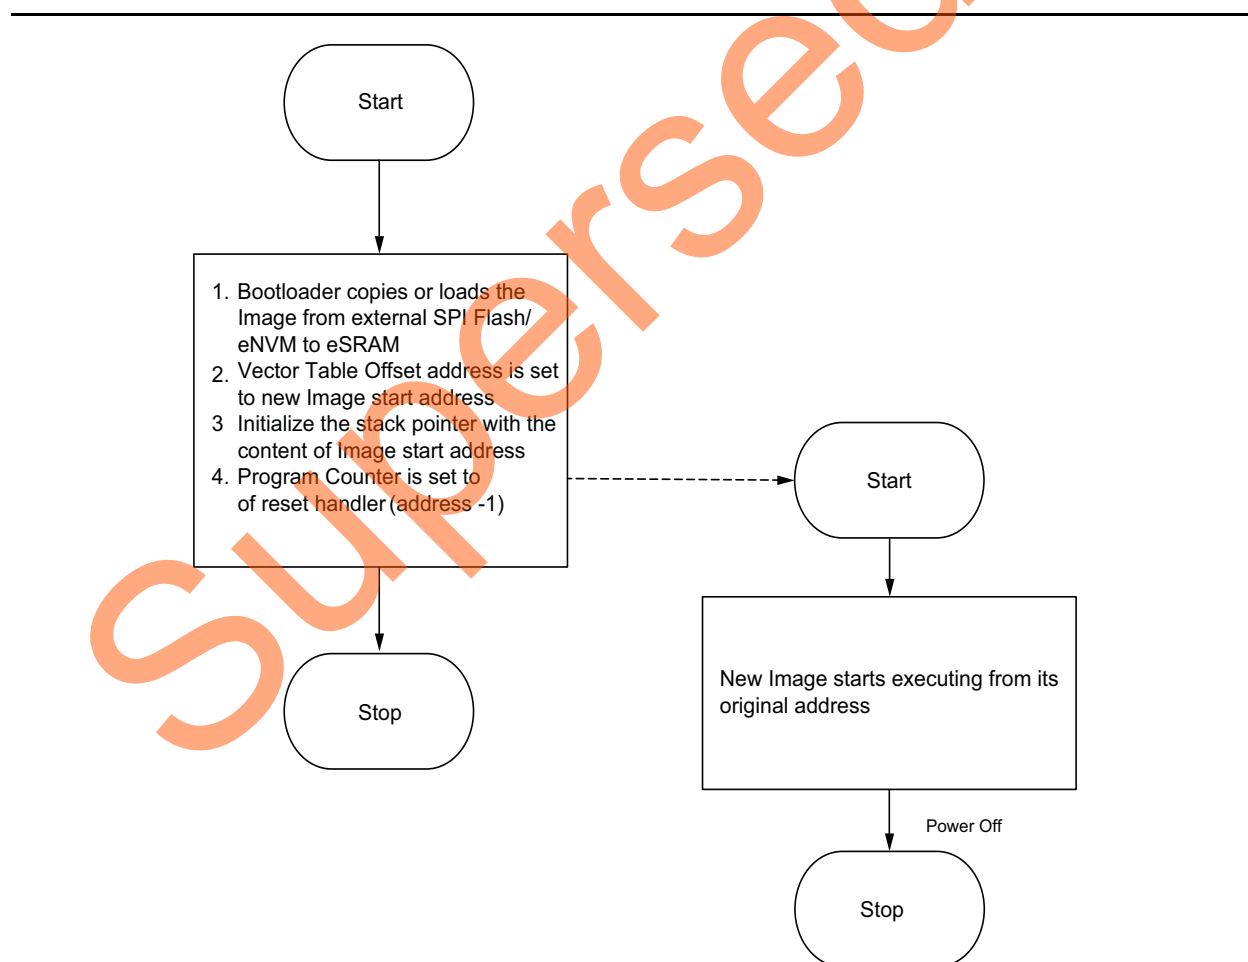

Figure 12 • Logic for Moving Execution Control to New Image in eSRAM without Remapping
1. **Without Remapping:** Using the vector table offset register in the system registers, the vector table address of the desired image can be set for execution, and point the stack pointer (SP) and the program counter to the reset handler of the desired image. This allows the Cortex-M3 processor to execute the new image. The eSRAM address must be used in the linker script generation for the executable images in this approach. This approach is explained in the flow chart shown in Figure 12.